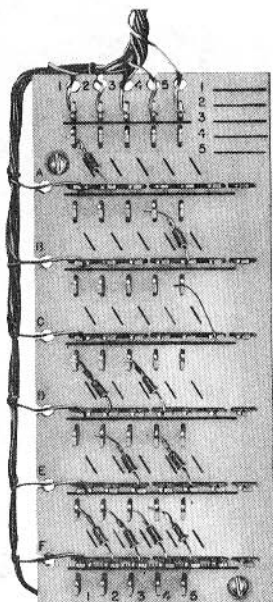

Fig. 1—1A1 Matrix Block—Typical Diode Installation
1.01 This section provides identification, installation, wiring and maintenance information for the 1A1 Matrix Block when used in key telephone systems to provide for diode control of station audible signals (Fig. 1).